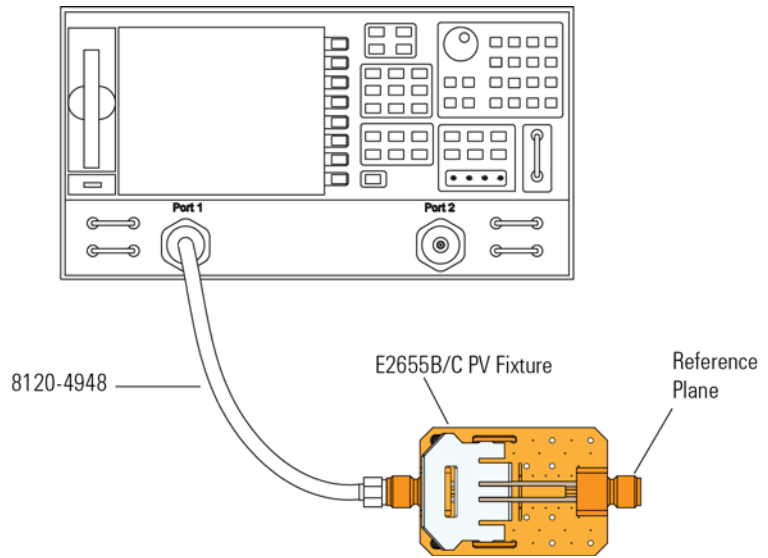

Figure 16 PV Fixture Connected to VNA
- 10 Connect the PV fixture to the **Port 1** on the VNA using a high quality SMA cables. Connect the cable to the pincher side of PV fixture as shown in Figure 16 on page 44.